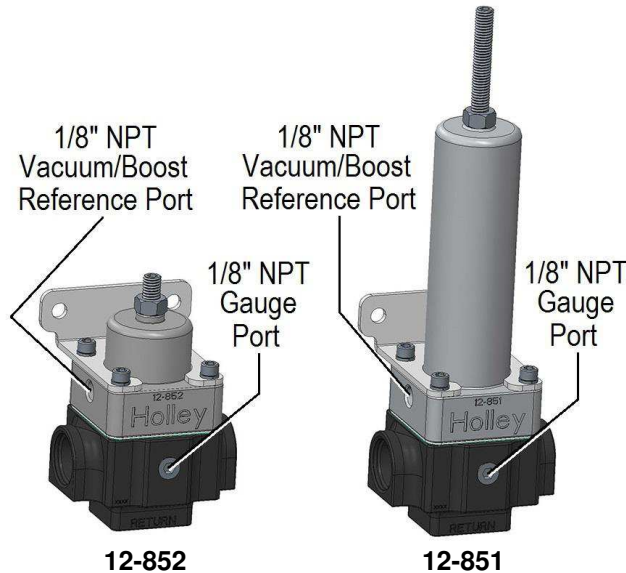

Figure 1
- The above return style regulators have one discharge (out) port, one inlet port, one return port and one gauge port. See **Figure 1**. (See chart above for fitting sizes).